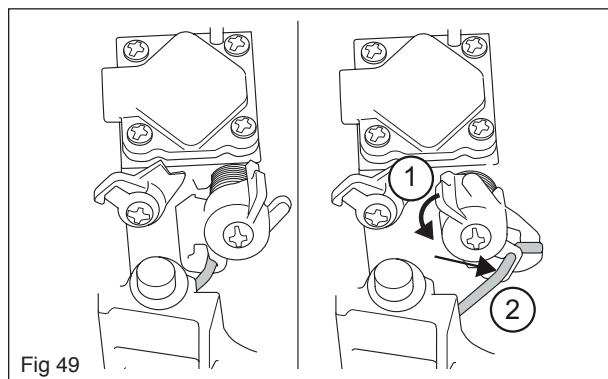

Fig 49
Press down the throttle valve shaft (1) and fasten the throttle pressure rod out to its fastening as outlined in figure 49.